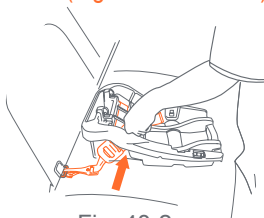

Fig. 48-2
6. Proper installation of the Base requires that the **UAS** webbing be very tight. To tighten the webbing, push down hard with your knee or hand on the Base while pulling upward on each webbing end. The webbing will automatically lock in place. Check that there is no slack in the webbing on both sides of the base and that the base is tightly installed (Fig. 48-2 and 48-3).